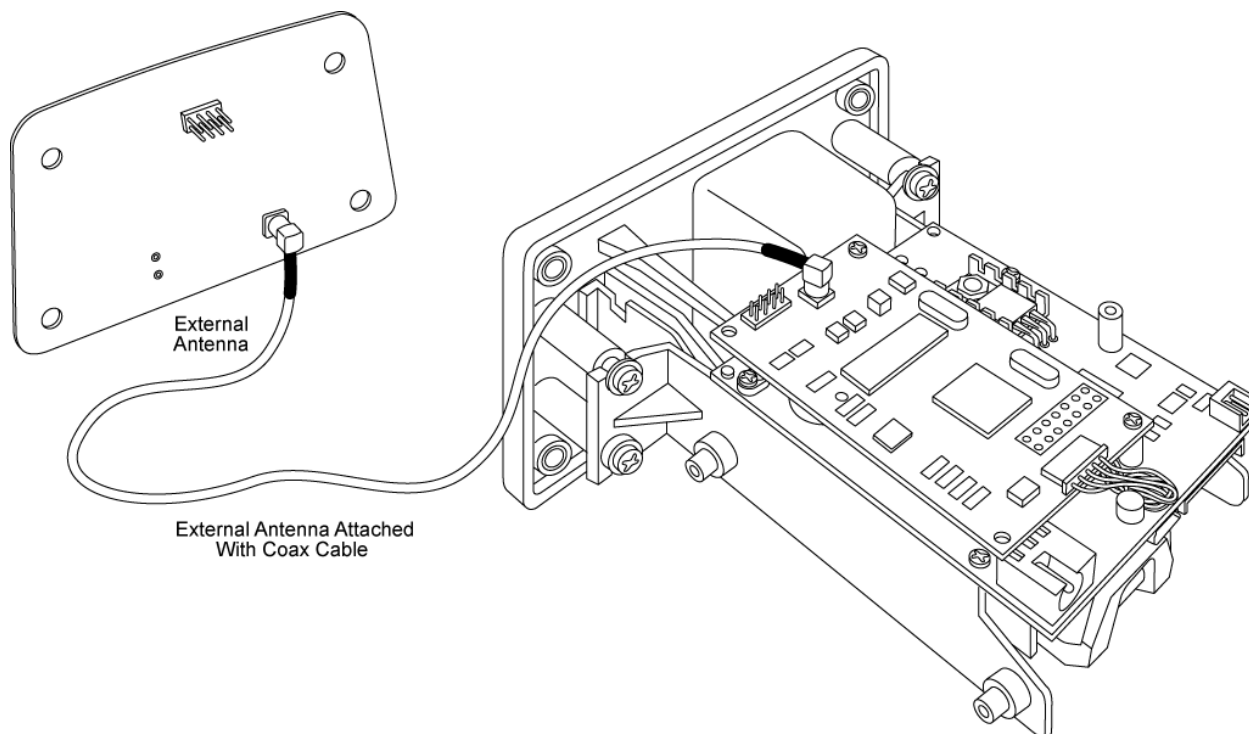

Figure 2-8. Using External Antenna without LEDs (Coax Cable)
- Coax Cable – this 12” (30cm) cable offers a slightly greater range of antenna placement but it does not operate the LEDs on the antenna module (see Figure 2-8)